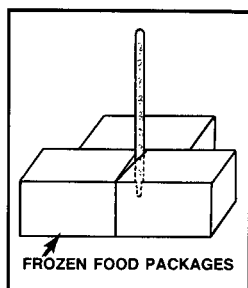

FIGURE 12
**FREEZER:** Place the thermometer in the center of the freezer, surrounded by frozen packages. See Figure 12. Wait 5 to 8 hours, then check the reading. If temperature is not within 0° to +2°F, adjust control as needed, one number at a time and check the temperature again after 4 to 6 hours.